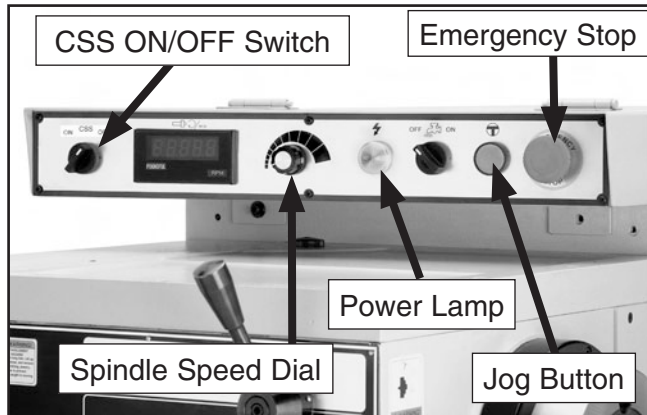

Figure 68. Control panel.
1. Before starting the lathe, make sure that you turn the CSS function switch (**Figure 68**) to **OFF**, turn the spindle speed dial to the minimum, and make sure the cross slide is backed out.
2. Find the master switch (**Figure 69**) on the back of the lathe, and turn it to the "I" or the "ON" position, and the power lamp (**Figure 68**) will light.